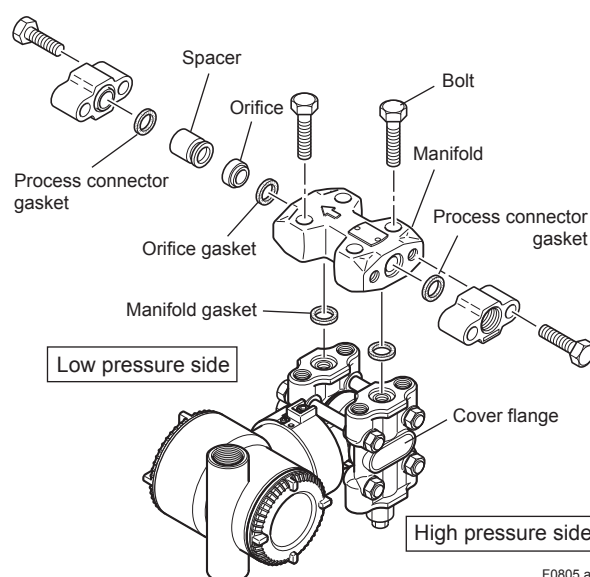

Figure 8.5 Manifold Assembly
This subsection describes the procedures for cleaning the manifold assembly and replacing the orifice to change flow rate. (See Figure 8.5.)
- 1) Reassemble the orifice gasket, orifice, and spacer into the manifold in that order. When reassembling, refer to Figure 8.5 to ensure that they are placed in the correct direction. Replace the orifice gasket with a new gasket.
Exercise care as follows when reassembling the manifold assembly. (See Figure 8.5.)